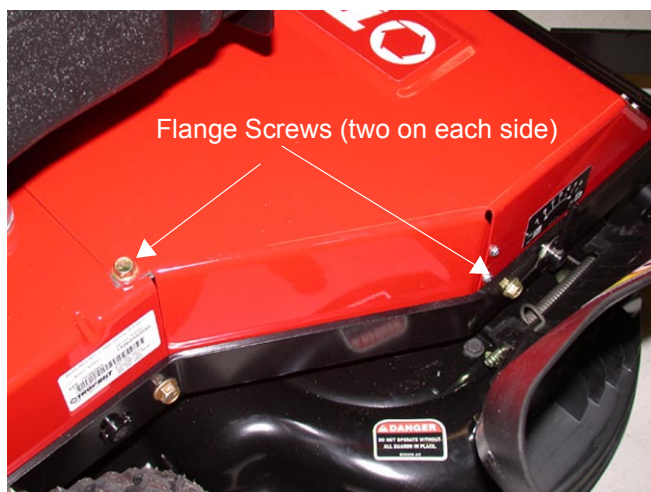

Figure 58
- 15.1. Using a ½ inch socket, remove the four flange screws securing the Belt Guard cover to the mower support frame. See Figure 58.